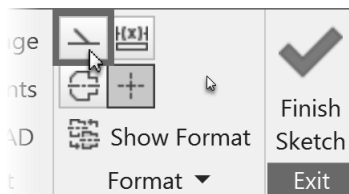

Figure 2.41
- After creating the sketch, select the geometry that you want to change and click the Construction icon on the Format panel as shown in Figure 2.41.